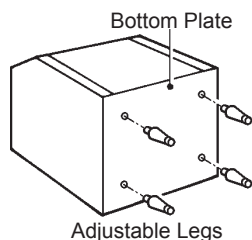

Fig. 3
- 1) Fully screw in the four legs provided (bin accessory) into the storage bin underside. See Fig. 3.